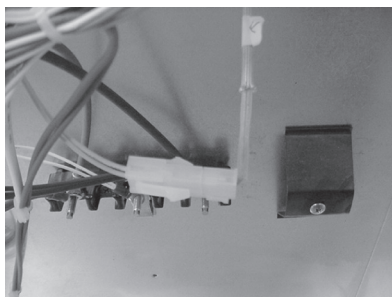

Fig. O-9
3. Unhook rear Molex wiring from Thermistor (**Fig. O-9**)